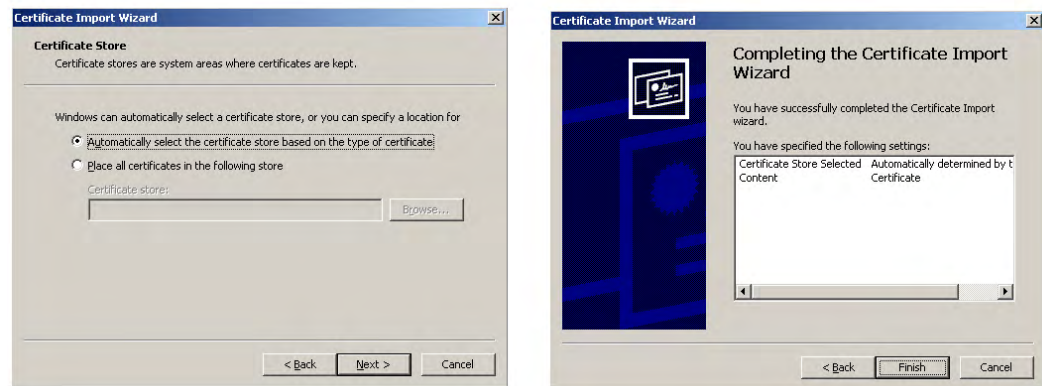

FIG. 58 Certificate Import Wizard- storing the certificate
8. Click **Next** to automatically use the default certificate storage settings and locations (FIG. 58).